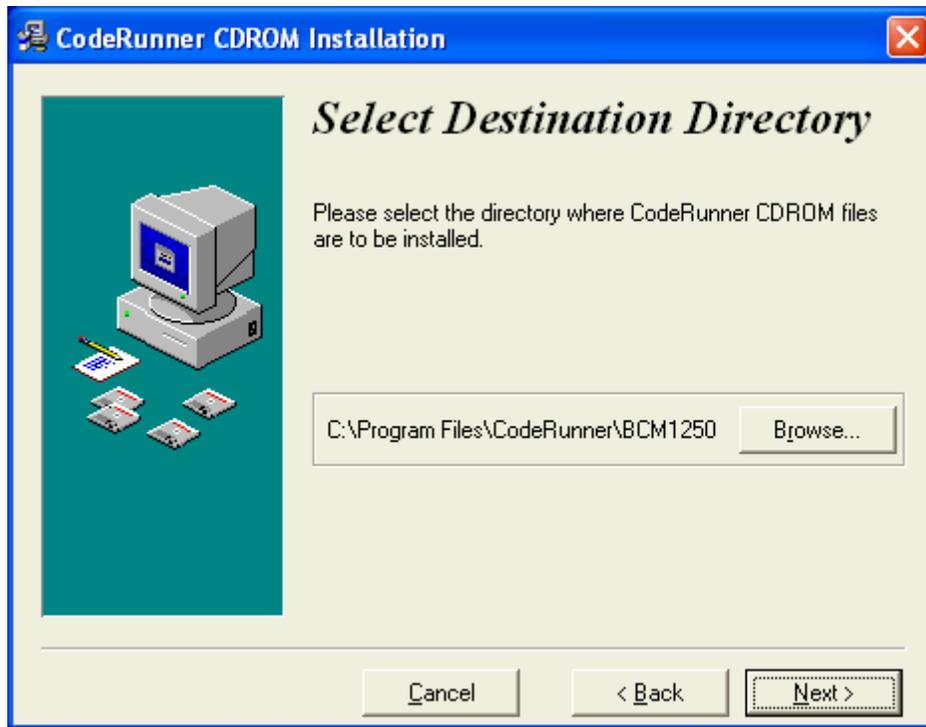

Figure 2-6. Select Destination Folder
Figure 2-6. Select Destination Folder.....	2-7
- Setup will next prompt you for an installation folder with the **Select Destination Folder** screen shown in Figure 2-6. You may accept the default folder, or choose a different one. To proceed with the installation, click the **Next** button.